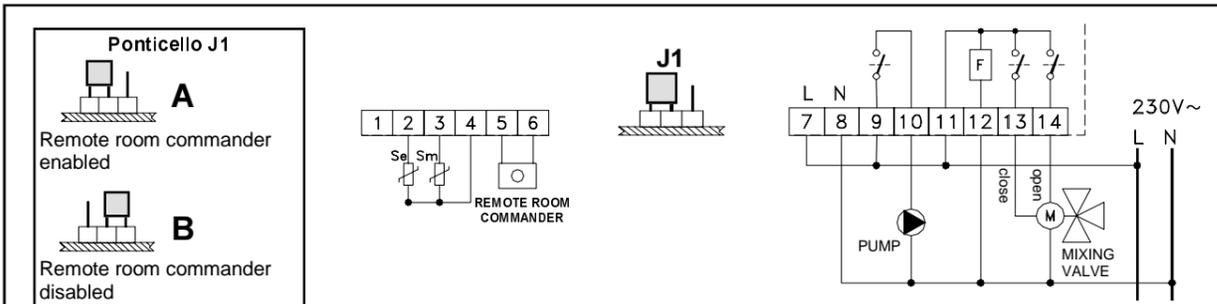

Fig. 10: Electrical wirings for a servo-motor type heating plant.
The room remote commander has to be enabled through a proper setting of the jumper J1 (see Fig. 10 and 11).
- Wirings 11, 12, 13, 14: check the wirings between the regulators and the burner or the servo-motor, according to the diagram in figures 10 and 11.